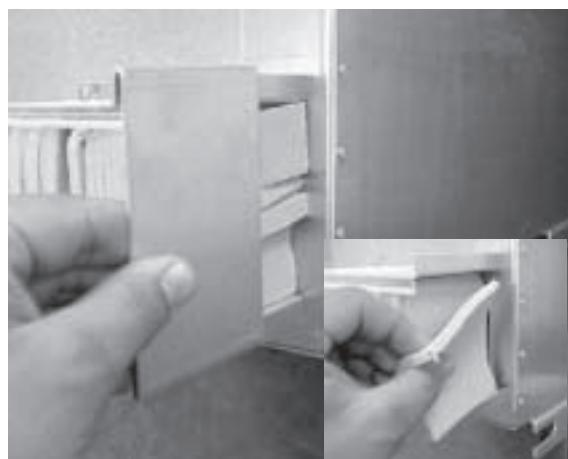

Figure 13
Step 1 Remove the sliding cap and foam squares from the fire penetration kit (Figure 13). These will be reinstalled later in the procedure.